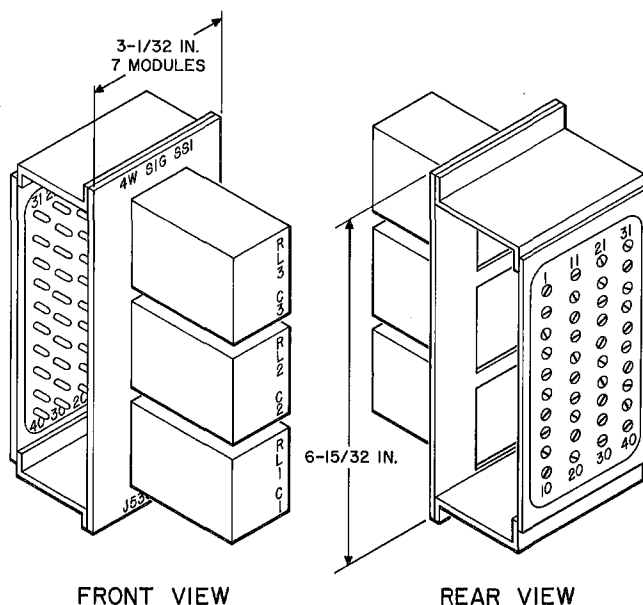

Fig. 6—Signaling Relay Unit (SS1)
2.09 Since SS-1 signaling systems provide only a momentary incoming coded signal (100-millisecond) to a selected station, a signaling relay unit (Fig. 6), in conjunction with other signaling equipment is used to repeat and control the signal. One unit is needed for each three or less stations per 4-wire private line equipped with SS-1-type signaling.